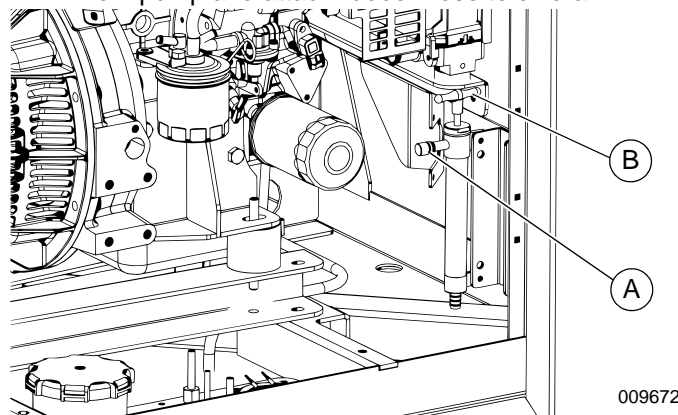

Figure 4-2. Draining Engine Oil
1. See Figure 4-2. Remove engine oil drain cap (A) from pump and attach rubber hose to oil drain.
1. See **Figure 4-2**. Remove dipstick (A) and wipe clean.